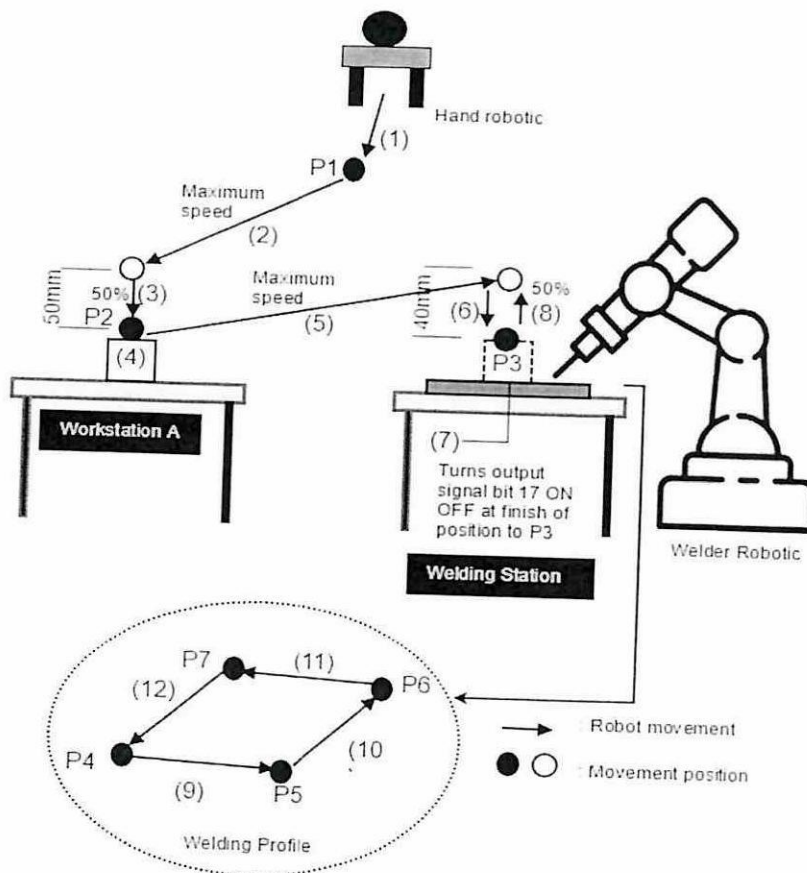

Figure Q2(c) Welding and Pick& Place Robot
- Q1 (a) Group technology (GT) is a manufacturing philosophy that identifies and exploits the underlying sameness of parts and manufacturing processes. In batch-type manufacturing for multi-products and small-lot-sized production, conventionally each part is treated as unique from design through manufacture. The biggest single obstacle in changing over GT from a conventional production shop is the problem of grouping the parts into families. Describe two general methods for solving this problem and sketch one example of organized part families.
- (c) A 6-axis robot is required to perform the pick and place operation to the designated position for moving part from P2 to P3 and will be welded with the plate at the welding station by a welder robot according to **Figure Q2(c)**. Initial robot program (1) needs to move with joint interpolation to P1. The speed movement needs to be set half to maximum speed when moving (2) and wait for 1 second for the completion of arrival to the target position before closing hand (4) in linear interpolation (3 to 4). Robot needs to wait 0.5 seconds and after that set movement in linear to maximum speed during lift up workpiece (5) and retracted workpiece to 40mm hand direction in half speed (6 and 7) at P3 with performing positioning delay in 0.1 seconds (7) before lift up to P3 (8). The Welder robot will start to weld according to the welding profile when the signal bit 17 turns ON. Evaluate with the aid of textual robot programming language to accomplish this movement.